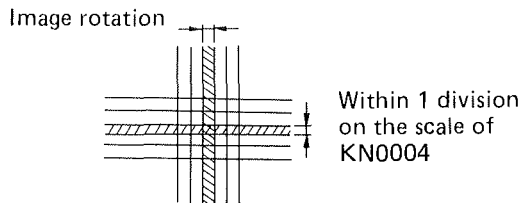

Fig. 13-13
2. Image rotation should be corrected within 1 division on the scale of KN0004. (See Fig. 13-13)
b) Image rotation with regard to the right side of BI unit Refer to Fig. 13-13 (allowable rotation).